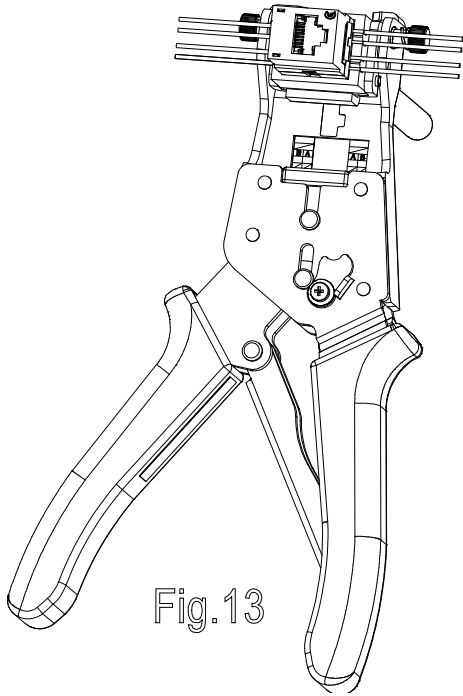

Fig.13
5.2.4 After all wires have been laced in the Termination Head, place the jack over the Wires See Fig. 13.